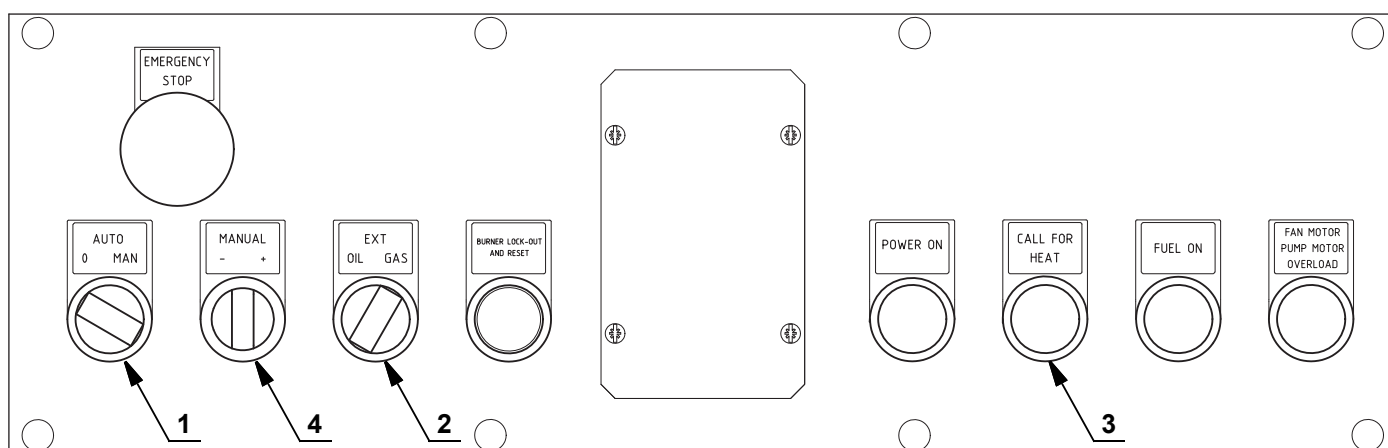

Fig. 30
Position the selector 1)(Fig. 30) on "AUTO".
Close the remote controls and set the switch 1)(Fig. 30) to "AUTO".
When the limit thermostat (TL) is closed, the heat request indication "CALL FOR HEAT" 3)(Fig. 30) must be displayed and the burner starts the starting cycle.
- 1 with selector 2)(Fig. 30);
- 2 with a remote selector connected to the main terminal board. Positioning the selector 2)(Fig. 30) to "EXT" activates the remote selection of the fuel.
Turn the selector 4)(Fig. 30 on page 28) "output reduction", and keep "-" pressed until the servomotor has closed the air damper and the gas butterfly valve at 35° (adjustment made in the factory).
The passage from one position to the next one is obtained by pressing the selector 4)(Fig. 30 on page 28) on the symbol "+" or "-".